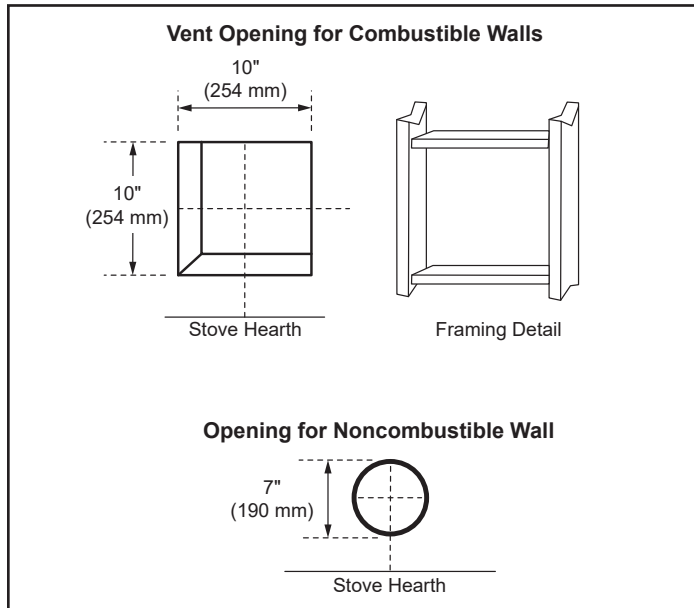

Figure 3.11 - Locate vent opening on wall.
1. Locate vent opening on the wall. It may be necessary to first position the stove and measure to obtain hole location. Depending on whether the wall is combustible or noncombustible, cut the opening to size, Figure 3.11 (for combustible walls first frame in opening). Combustible Walls: Cut a 10" x 10" (254 x 254 mm) hole through the exterior wall and frame as shown, Figure 3.11. Noncombustible Walls: Hole opening must be 7" (178 mm) in diameter.